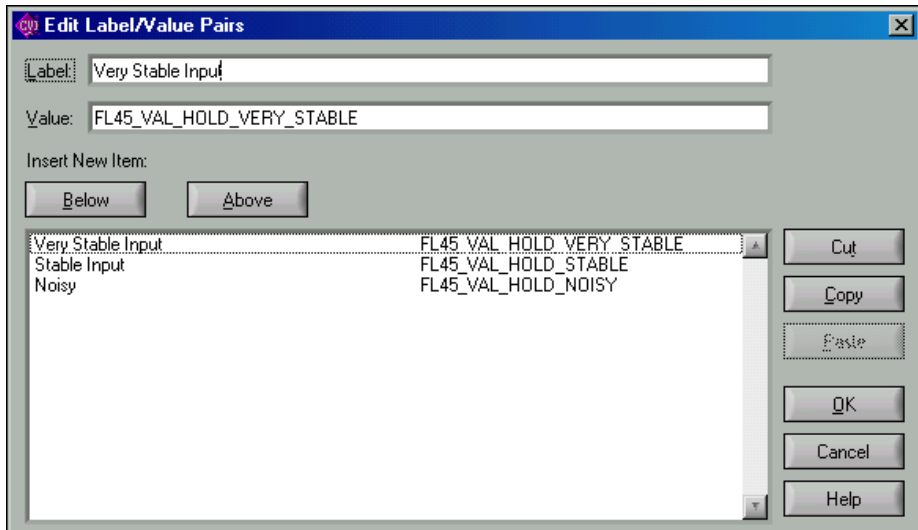

Figure 5-21. Edit Label/Value Pairs Dialog Box
- c. Click **Label/Value Pairs** and complete the Edit Label/Value Pairs dialog box as shown in Figure 5-21.